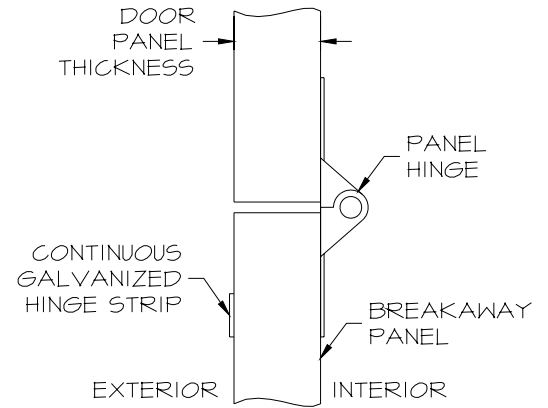

FIG. 4A
- \* If **Breakaway Panel is the same thickness** as the door panel, do not shim (Figure 4a).